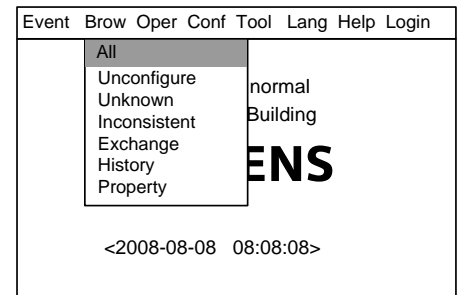
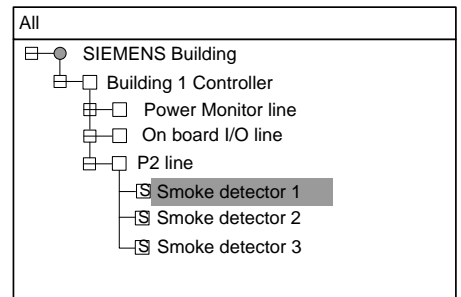

Fig.15-2
Fig.15-3
2. Press “→” to select “Brow” submenu (Fig. 15-2). Press “↓” to select “All”, then press “OK” to display the tree diagram (Fig. 15-3). Search down level by level through stations, lines and points until you find the equipment you are looking for.